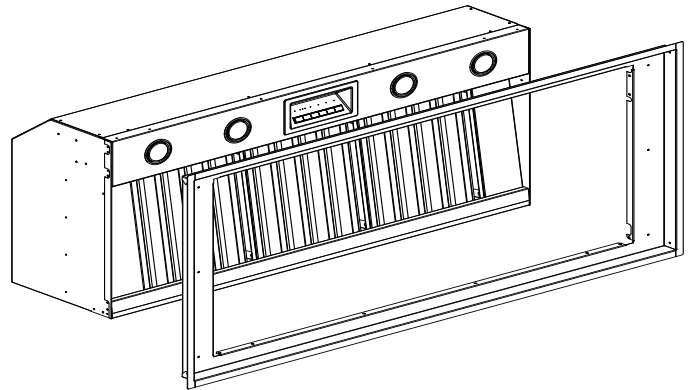

Figure 34: VCIB Liner Installation
- a) Slide the liner onto the hood (*Figure 34*).